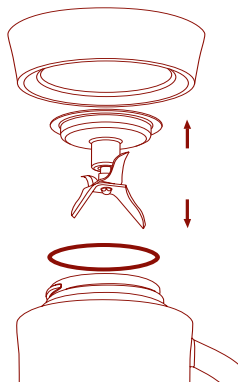

Figure 8
- For each Blending Jar, turn the Blending Jar upside down and unscrew the Jar Base (counter-clockwise to the left). Carefully remove the Blending Blade, and Blending Blade Sealing Ring (Figure 8)